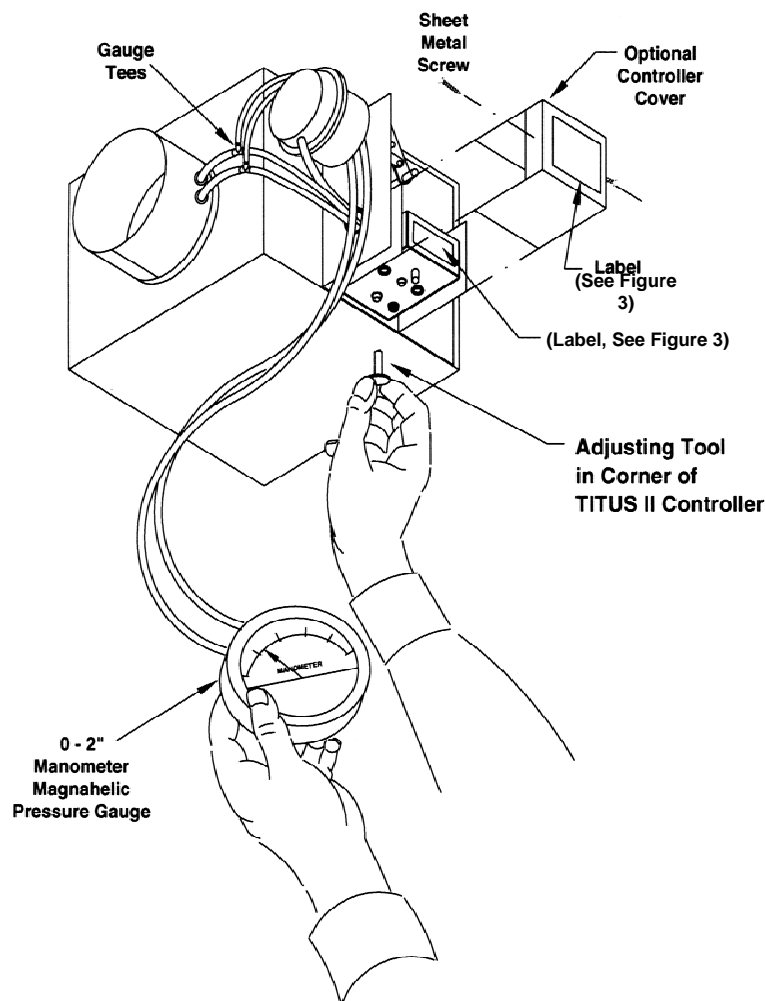

Figure 1. Adjusting Air Flow
- Remove the optional controller cover (Figure 1).